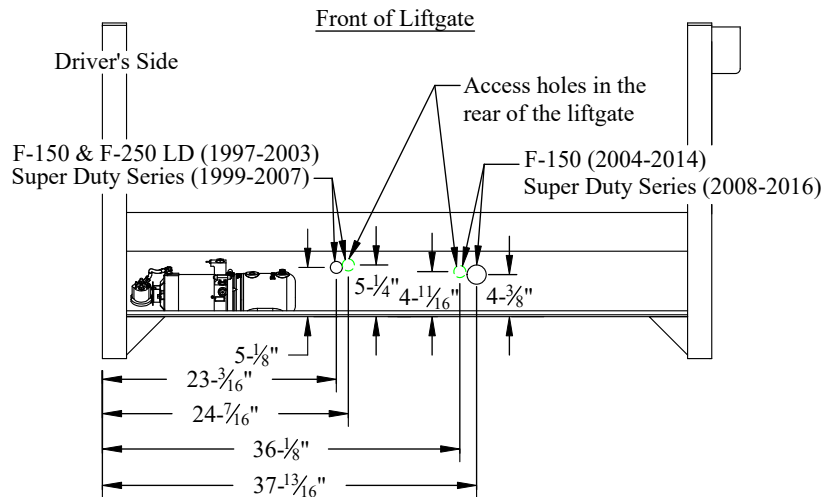

Figure 14: Spare tire access.
2. **Remove and Discard** the black plastic plug(s) from the mainframe at the location shown (Figure 14).